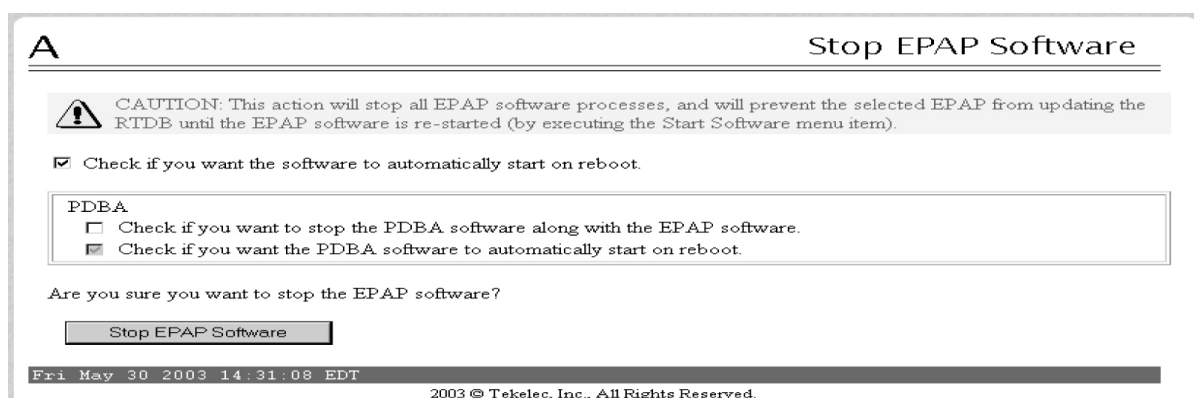

Figure 51: Stop Software Confirmation
The screen shown in Figure 51: Stop Software Confirmation appears:
4. On the **Stop EPAP Software** screen, make sure the checkboxes are checked as shown in Figure 51: Stop Software Confirmation.